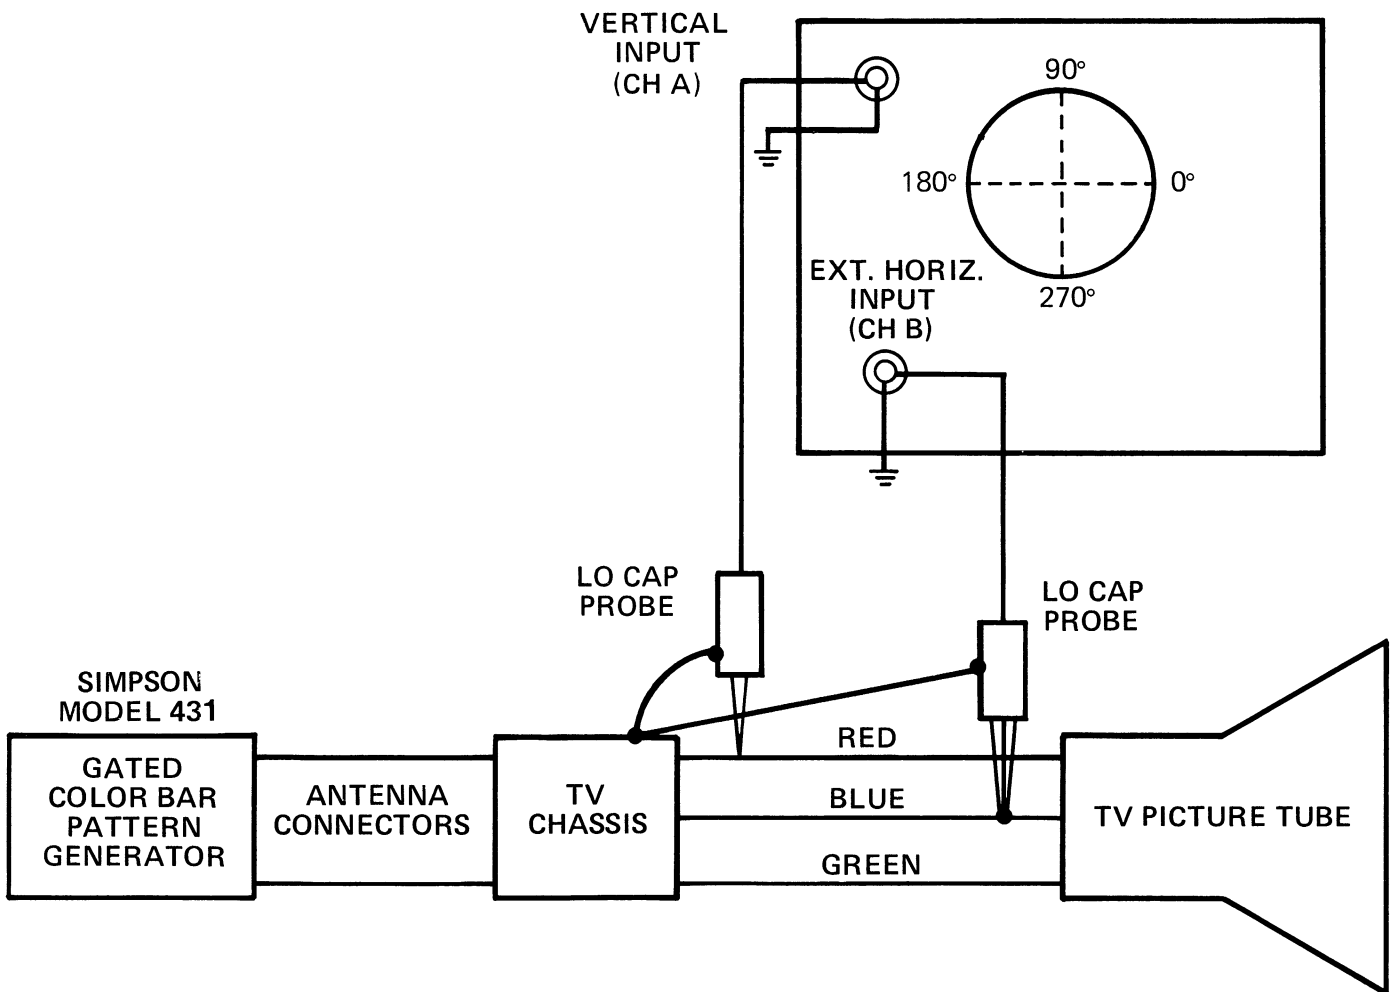

Figure 6-11. Vector Pattern Display
6.17.1 The vector display operation of the 454 can be used to check and adjust the chroma section in color television receivers. A color bar/pattern generator is required to simulate the composite video signal. Because of the sensitivity of the 454, the vector pattern can be traced from the demodulators, through the amplifiers, and the guns of the color tube. Normally the vector pattern is obtained at the guns of the color tube as follows (Figure 6-11):